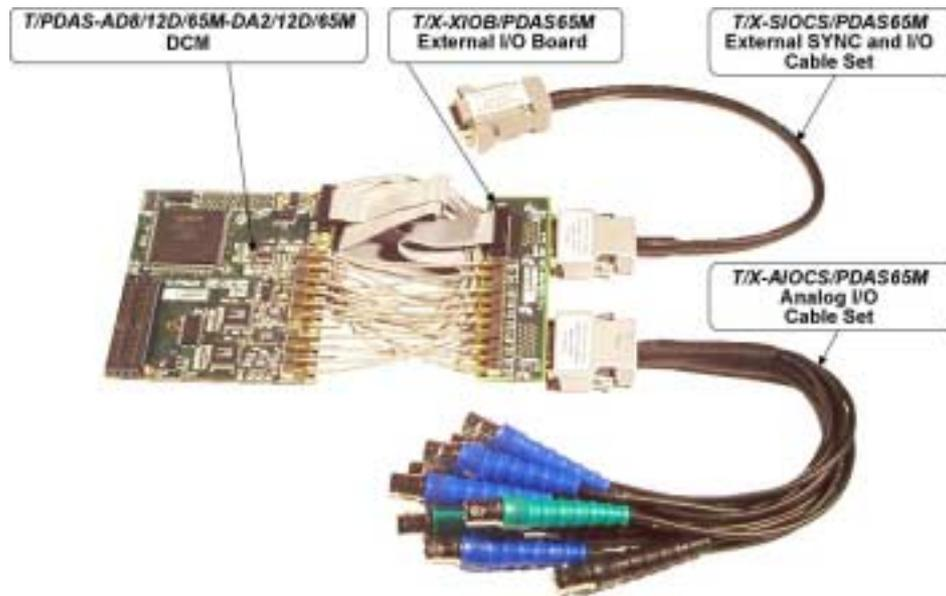

Fig. C-1. *T/PDAS-AD8/12D/65M-DA2/12D/65M* DCM with *T/X-XIOB/PDAS65M* external I/O board and *T/X-SIOCS/PDAS65M* and *T/X-AIOCS/PDAS65M* external cable sets.
External synchronization and analog I/O devices can either directly connect to *T/PDAS-AD8/12D/65M-DA2/12D/65M* on-board JP2 and JP5..JP14 connectors, or, for more convenience, can connect by means of optional *T/X-XIOB/PDAS65M* external I/O board and two external I/O cable sets (fig.C-1), which include *T/X-SIOCS/PDAS65M* and *T/X-AIOCS/PDAS65M* external cable sets and which come standard with *T/PDAS-AD8/12D/65M-DA2/12D/65M* DCM shipment package. *T/X-SIOCS/PDAS65M* and *T/X-AIOCS/PDAS65M* external cable sets comprise can be used for connection to external synchronization and analog I/O devices via industry standard end connectors.
*T/X-SIOCS/PDAS65M* and *T/X-AIOCS/PDAS65M* external cable sets for *T/PDAS-AD8/12D/65M-DA2/12D/65M* DCM plug either into the JP20 and JP21 connectors correspondingly at *T/X-XIOB/PDAS65M* external I/O board for *T/PDAS-AD8/12D/65M-DA2/12D/65M* DCM (refer to fig.C-1 and section “*T/X-XIOB/PDAS65M* external I/O board” earlier in this appendix) and shall be used for connection to external devices via industry standard end connectors.